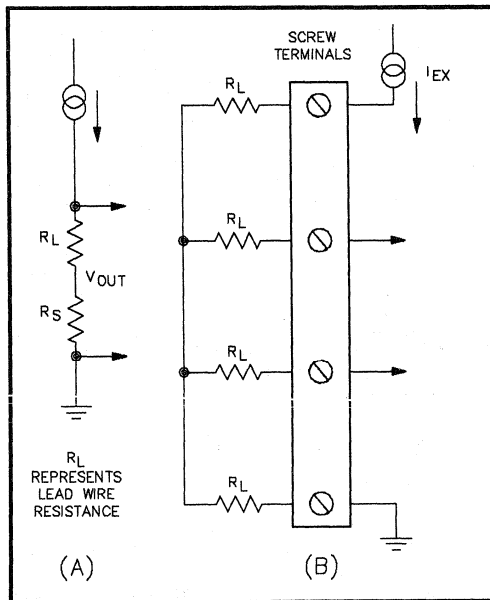

FIGURE 6.3. Measuring a Resistive Device.
Transducers, such as strain gages and RTDs, have relatively low sensitivity. That is, the change in resistance is small for a given change in the input parameter. Simply measuring the change in voltage (due to a current excitation) across the device is difficult. Not only is the change in voltage small, but it is "riding" on the device's quiescent ( $I \cdot R$ ) voltage. The quiescent voltage greatly limits the amplification that can be used to amplify the voltage change. Let us explore this concept in more detail. Fundamentally, a DA&C system can measure only voltage. Fortunately, as has been suggested, all other types of signals can be transformed into voltages. To convert a changing resistance, we need only to "excite" it with a current. The voltage across the resistance is then ( $I \cdot R$ ). Figure 6.3(A) shows the basic idea.
The effects of lead-wire resistance should also be considered. The output voltage is proportional to the sum of the RTD resistance and the connecting wire resistance ( $R_L$ ). In many applications this "wire error" can be very significant. Figure 6.3(B) suggests a solution. This is the so-called Kelvin or four-terminal connection. Wire resistance cannot be eliminated, but this measurement technique greatly reduces the effects. The idea is to connect two wires to each end of the measuring device. One lead carries the excitation current and the other senses the terminal voltage. Current in the sense or measurement lead is very small and can be assumed to be zero. This is because the DA&C system has a very high input impedance. Thus, no voltage drop occurs in the sensing lines. Note that under these condi-